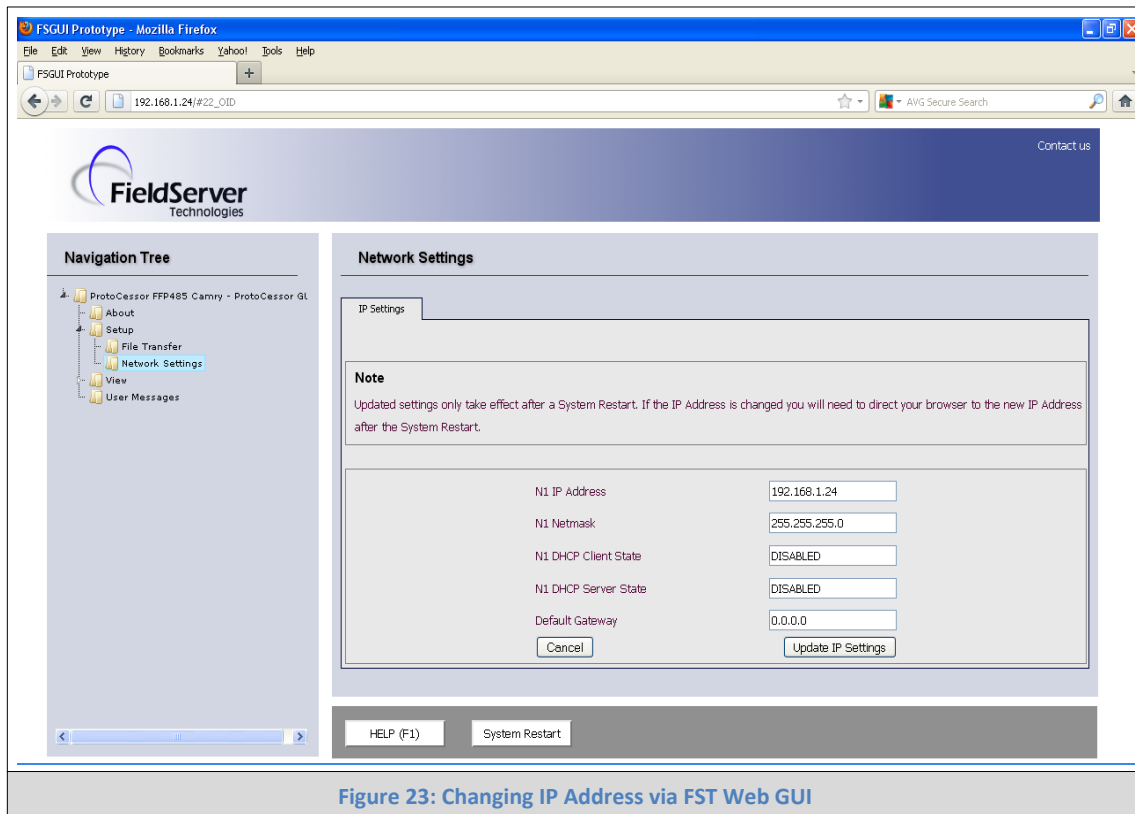

Figure 23: Changing IP Address via FST Web GUI
- From the FST Web GUI’s landing page, click on “Setup” to expand the navigation tree and then select “Network Settings” to access the IP Settings menu. (Figure 23)